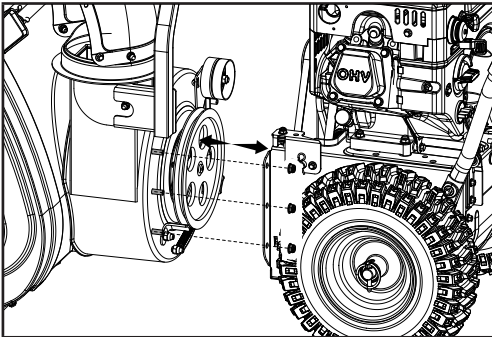

Figure 39
- Unscrew six M8 nuts to separate the auger housing from the base (Fig. 39).